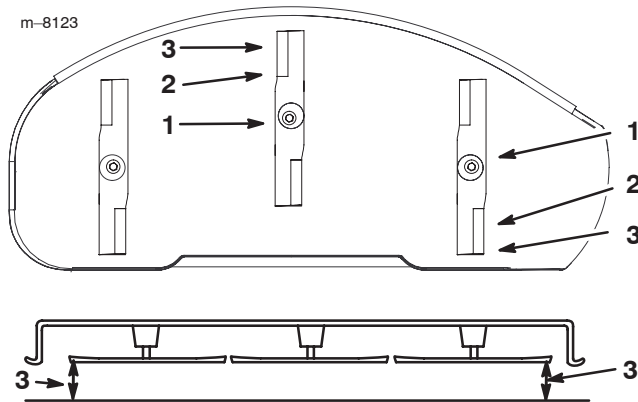

Figure 40
8. Set the height-of-cut at position **2.5** [2.5 inch (64 mm)] and carefully rotate the blades so they are facing front to rear (Fig. 40).
9. Measure from the tip of the front blade to the flat surface and the tip of the rear blade to the flat surface (Fig. 40). If the front blade tip is not 1/16–5/16 inch (1.6–7.9 mm) lower than the rear blade tip, adjust the front locknuts.